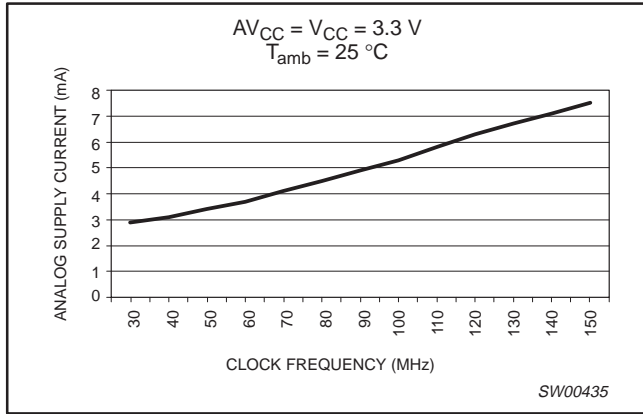

Figure 3. Analog supply current vs. clock frequency
- For  $I_{CCA}$  and  $I_{CC}$  vs. frequency, see Figures 3 and 4.